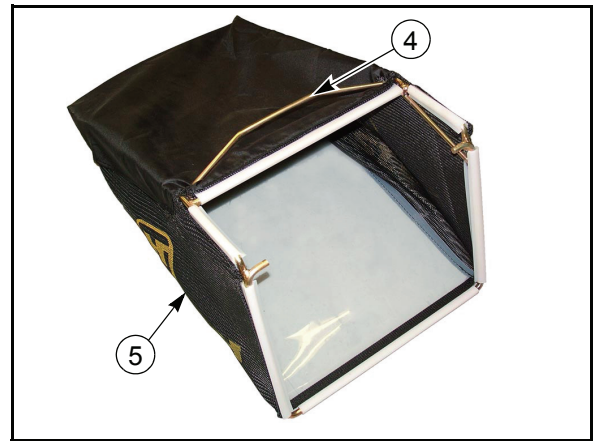
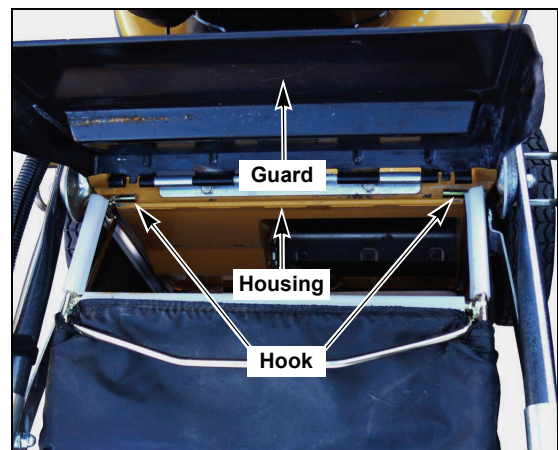

Fig. 4-11
Fig. 4-12
- Place the catcher bag ⑤ onto the frame ④. Fig. 4-11. Attach the catcher to the mower. Lift the guard and set the hooks of the catcher on the housing of the mower. To remove the catcher reverse the previous procedure. Fig. 4-12